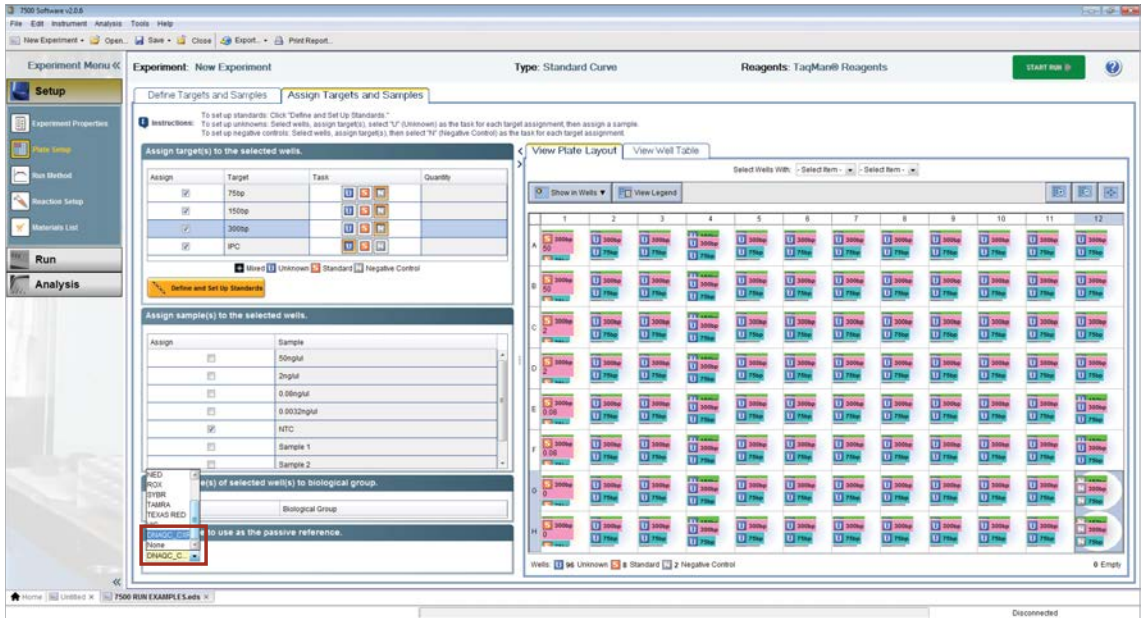

Figure 6. Assigning Sample(s) to selected wells.
14. Select “DNAQC_CXR” from the drop-down menu titled “Select the dye to use as the passive reference” (Figure 6).